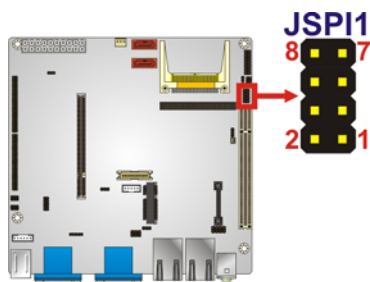

Figure 3-17: SPI Flash Connector
- CN Location:** See **Figure 3-17**